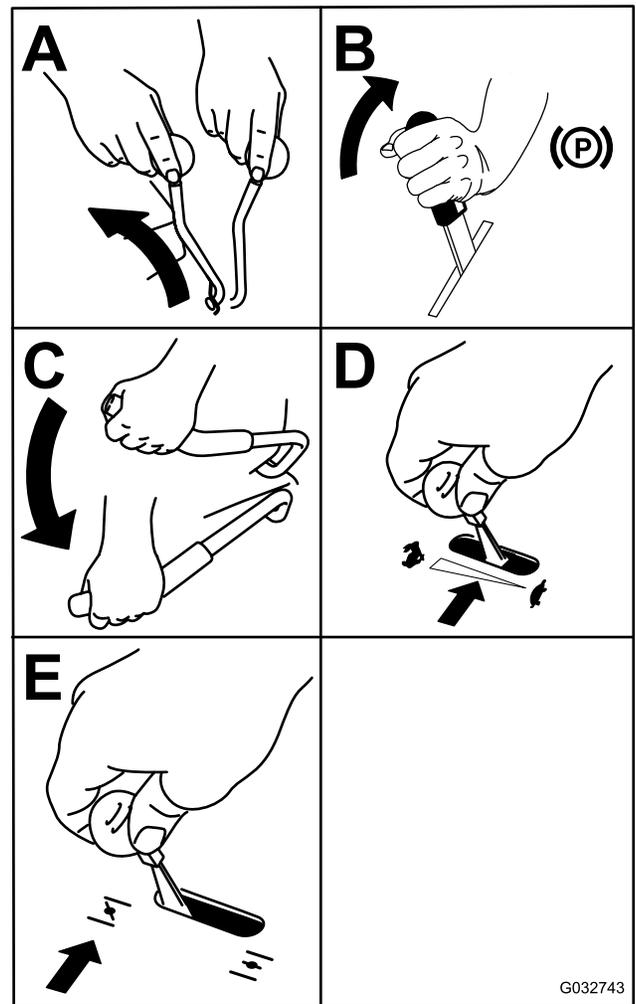

Figure 23
3. Move the PTO-engagement lever to the OFF position (Figure 23).
6. Turn the key to the START position (Figure 23). When the engine starts, release the key.